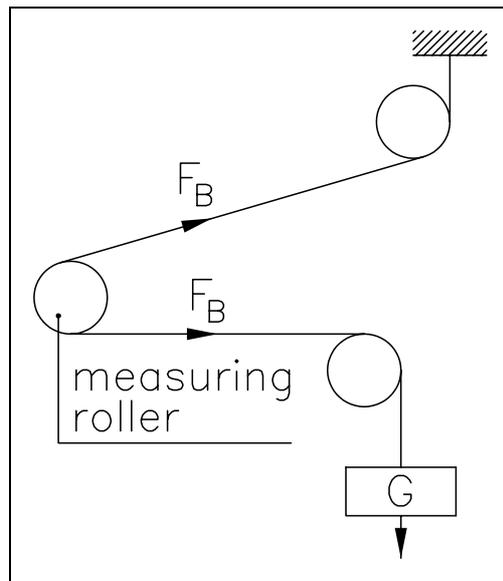

fig. 10: Calibrating the measuring amplifier C431011e
The following instructions are referring to a setup and calibration inside the machine. The material tension will be simulated by a weight (fig. 10).
- Load material or rope with a defined weight (fig. 10)
The following instructions refer to a setup and calibration inside the machine. The material tension will be simulated by a weight (fig. 10).